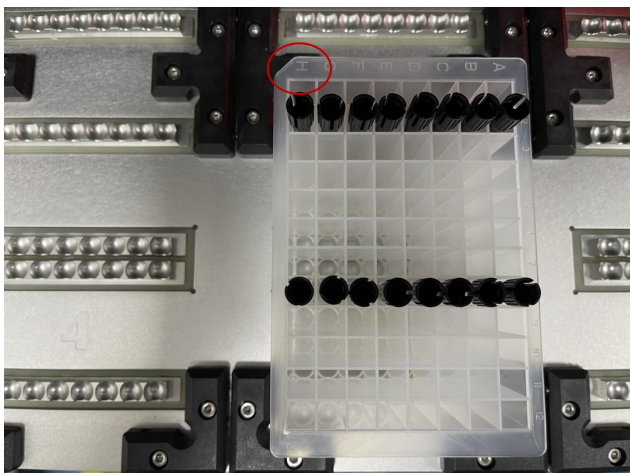
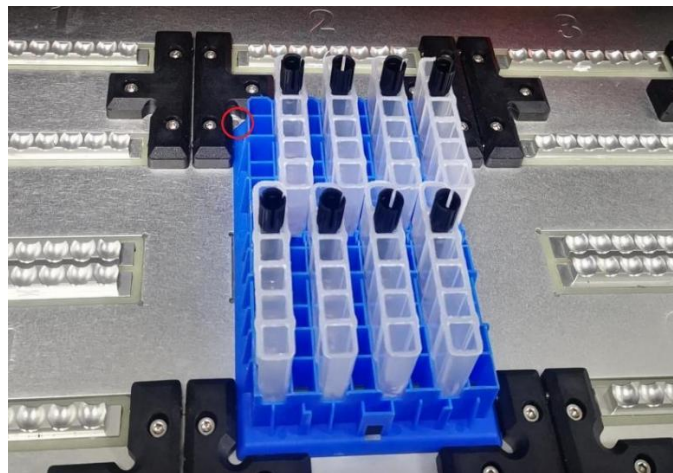

Figure 5. 96-deep well plate
Figure 6. Put the single kit docking into the instrument
**⚠ Note:** The user should ensure the marked notch of the plate of the 96-deep well plate and 6 strip tube are on the left, which is shown in Figure 5 and Figure 6.